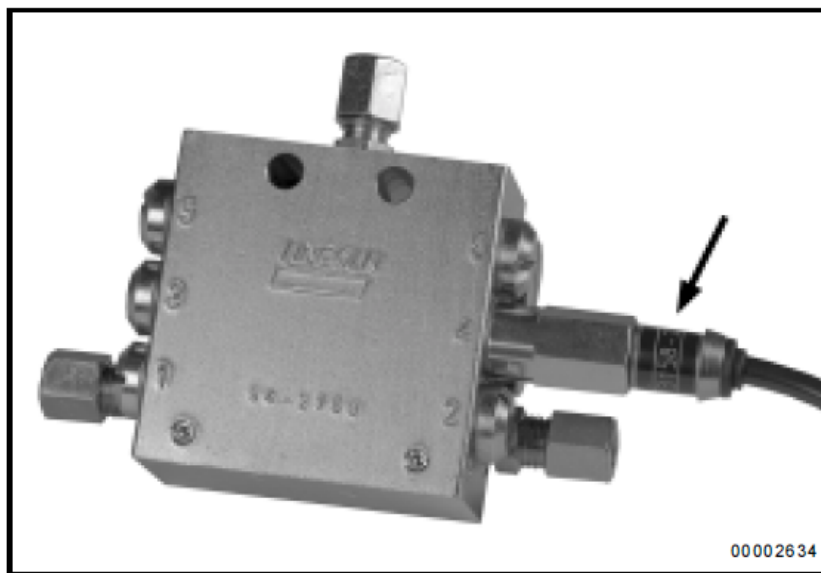

Fig. 20 - Piston detector
- monitored divider valve model SSV...-N with integrated piston detector, see fig. 20.